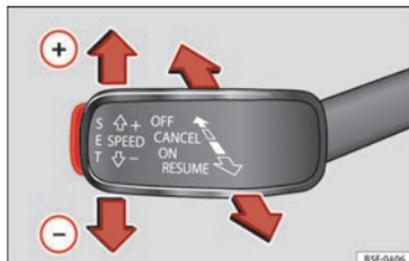

Fig. 33 See Fig. 3 for positioning
- Switching on the CCS: move the third lever to **ON** »» Fig. 33. The system switches on but it does not control the speed as no speed has been programmed.
- Activating the CCS: press the **SET** »» Fig. 33 button. It memorises and maintains the current speed.
- Temporarily switching off the CCS: move the lever to **CANCEL** »» Fig. 33 and release it or press the brake pedal. The cruise control system is switched off temporarily.
- Reactivating the CCS: move the lever to **RESUME** »» Fig. 33 and release it. The memorised speed is saved and controlled again.
- Switching off the CCS: move the third lever to position »» Fig. 33 to **OFF**. The system is disconnected and the memorised speed is deleted.